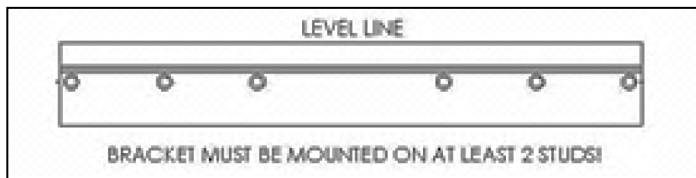

Figure 4 - Wall Mounting Bracket - NOTE: Drawing for Demonstration Purposes Only
- a. The building frame (studs) must be 2 X 4 minimum and 16" on center (24" on the 399 model). If not, you must use 1/2" minimum plywood 24" x 48" with at least fourteen (14) #12 x 3" (3/16" x 3") round head tapping screws to the frame of the building to provide proper support for the boiler. No alternate methods of mounting or fastening (ex. Toggle bolts, hollow wall anchors, or any other fastener) may be used.
- d. Pre-drill pilot holes on the marked stud locations. The pilot holes for bare studs should be 2" deep for all models. See table below for pilot hole diameter by wood type. Increase length for any material covering the stud. Ensure that the pre-drilled holes are straight and square to the wall. Failure to do so could lead to insufficient support or out of level boiler. See Figure 4.
- c. Pre-drill holes on the marked stud locations. The pre-drilled holes should be 1/2" in diameter for 3/16" bolts, and 3/4" in diameter for 3/8" bolts, to allow for the collapsed wings of the toggle to slide through. Ensure that the pre-drilled holes are straight and square to the wall. Failure to do so could lead to insufficient support of out of level boiler. See Figure 4.